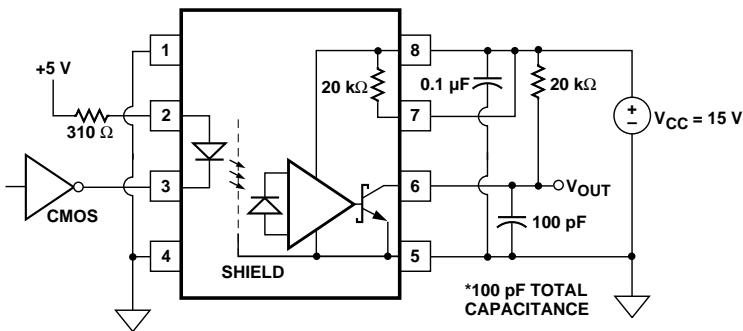
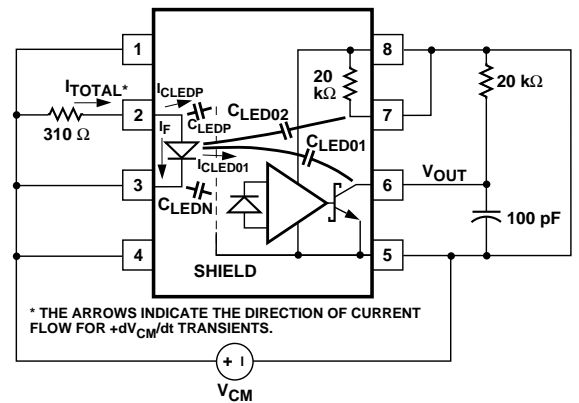

Figure 22. LED Drive Circuit with Resistor Connected to LED Anode (Not Recommended).
Figure 23. AC Equivalent Circuit for Figure 22 During Common Mode Transients.
The placement of the LED current setting resistor effects the ability of the drive circuit to keep the LED on during transients and interacts with the direct coupling to the optocoupler output. For example, the LED resistor in Figure 22 is connected to the anode. Figure 23 shows the AC equivalent circuit for Figure 22 during common mode transients. During a +dVcm/dt in Figure 23, the current available at the LED anode (Itotal) is limited by the series resistor. The LED current (IF) is reduced from its DC value by an amount equal to the current that flows through CLEDP and CLEDO1. The situation is made worse